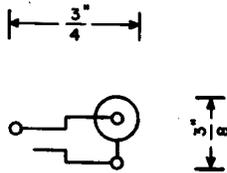

Fig. 12—358-Type Plug
2.06 358A, B, C, D, and E: The 358-type (Fig. 12) are coaxial type plugs, arranged for solderless shield connection to the connecting cable by means of a sleeve which is furnished as a loose part.